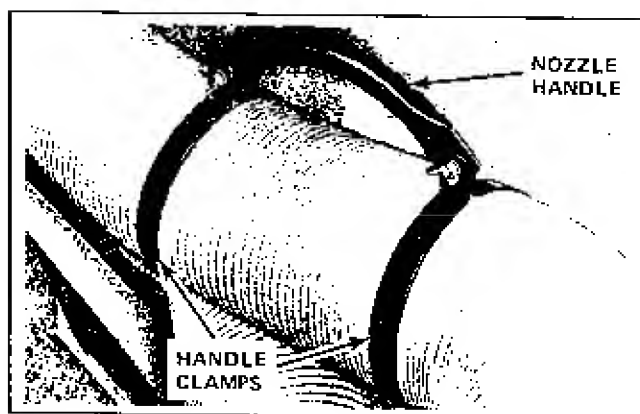

FIGURE 12
2. Install the hose handle clamps the desired distance from the pickup end of the hose and attach the handle (Figure 12)